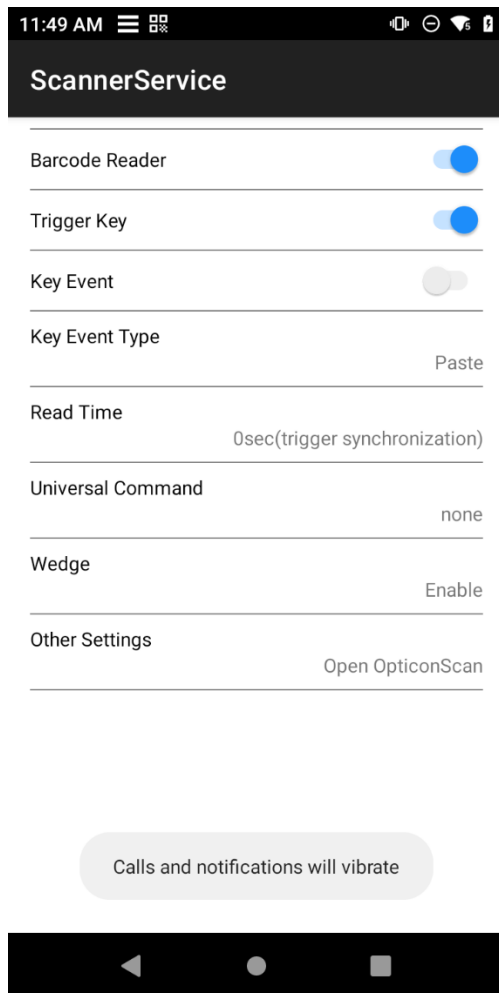

Figure 12-5: The *ScannerService* application settings on the H-35 where the *Key Event* is disabled.
1. Navigate to the *ScannerService* settings on your H-35 handheld terminal (see Figure 12-5).
2. Ensure that the *Key Event* is disabled. This setting can be found in the *ScannerService* settings, as shown in Figure 12-5.